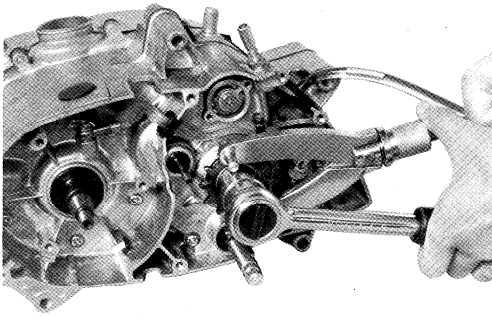

Fig. 5-4-6
7. Straighten the engine sprocket washer with a chisel and hammer. Hold the sprocket with an engine sprocket holder (special tool 09930-40113) and loosen the nut with a 24 mm wrench. (Fig. 5-4-6)